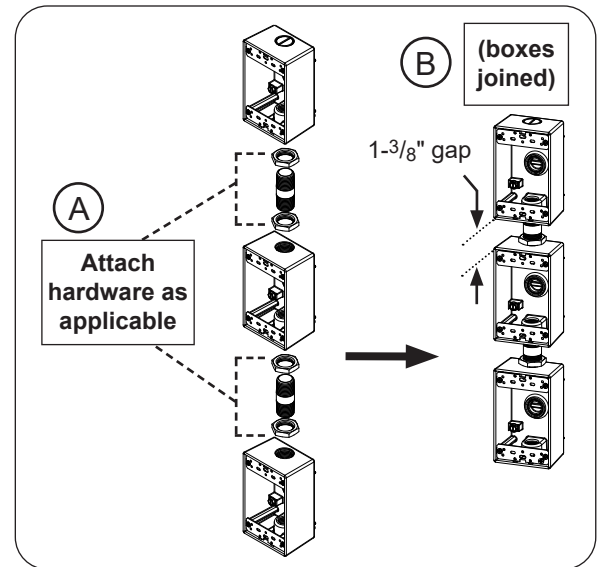

Fig. 7-2 Hardware connections
- Use the supplied hardware (nipples and nuts) to join each switch box for electrical routing. Attach hardware as applicable. See Fig. 7-2, A and B.
- Adjust the hardware to create 1- $\frac{3}{8}$ " gaps between each switch box as needed. See Fig. 7-2, B.